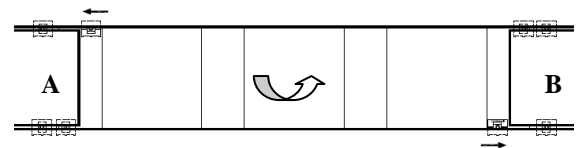

Figure 1'
1. Unscrew COBRA® fasteners that hold the board to be turned over / replaced (including fasteners that holds boards A and B) and slide them inside the groove channel of boards A and B (**Figure 1'**)